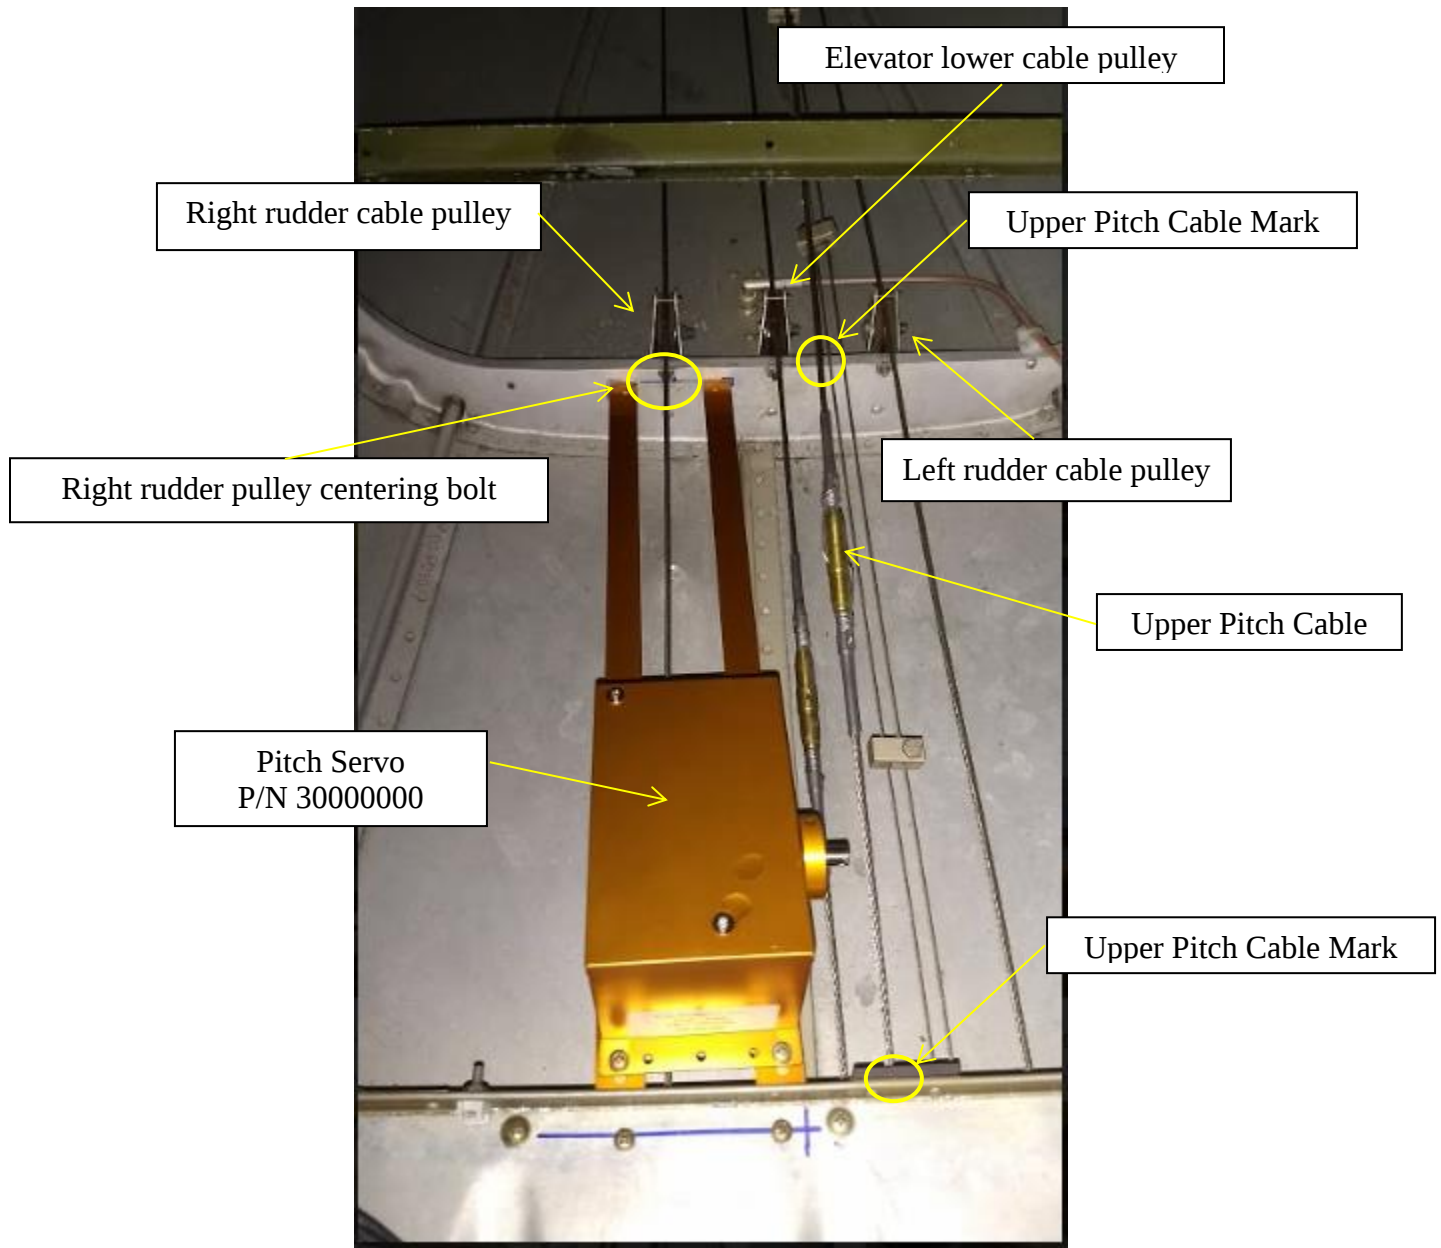

FIGURE 4-2 RIGHT RUDDER CABLE PULLEY
7. With the elevator locked in neutral, mark the location of the starboard side right rudder cable pulley at FS-142.00. Refer to Figure 4-2.